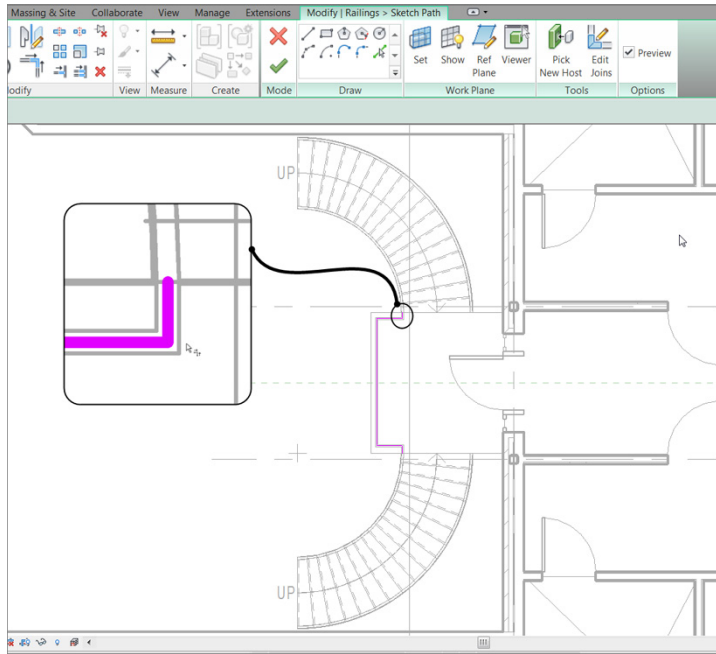

FIGURE 10.53: Connecting the landing railing to the stair railing
6. After the offsets are complete, click the Line icon on the Draw panel, as shown in Figure 10.53. Set Offset to 0.
7. Draw the lines extending from the midpoint snap of the stair railing to the landing railing (see Figure 10.53).
8. Trim the corners so your railings look like Figure 10.53.